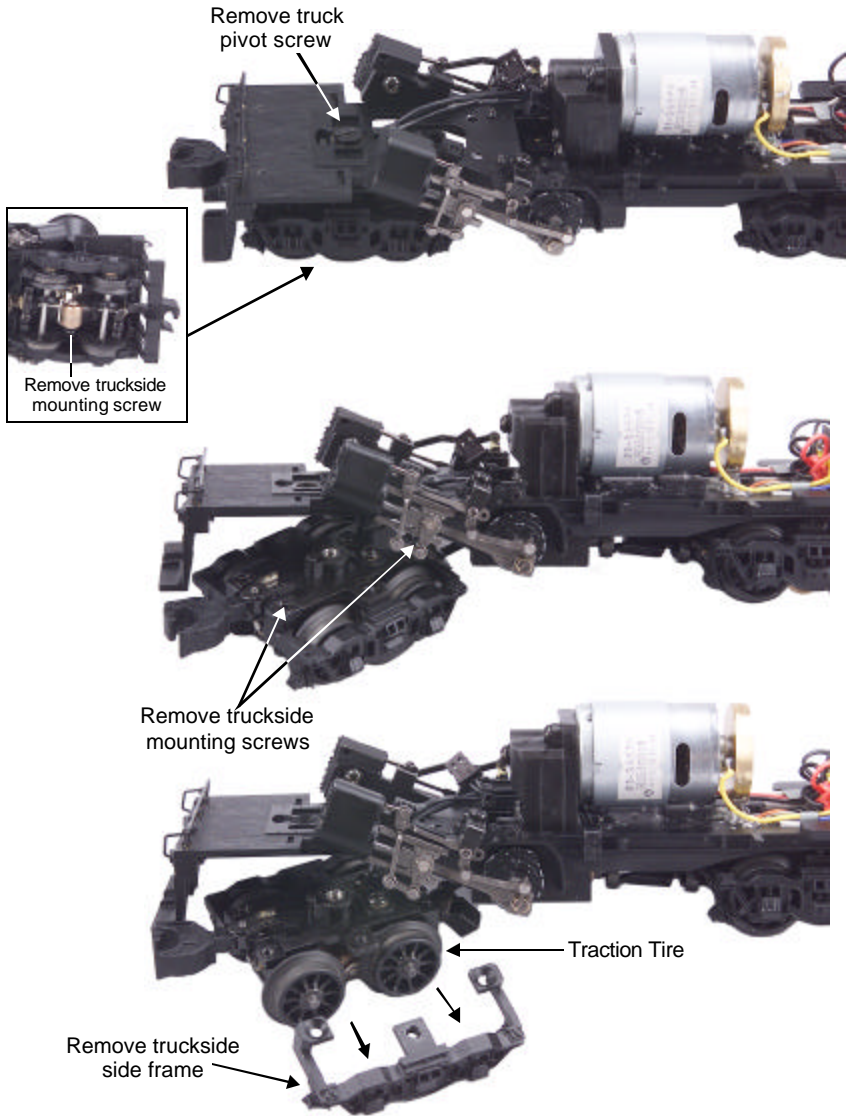

Figure 4. Replacing the Traction Tires
1. Remove the Boiler from the engine chassis, next remove the truck mounting screws from the top of the truck frame. Take note on which side the gears contact each other before disassembling. Remove the screws the hold the side frames to the trucks (2 on the bottom, 4 on top) Remove the wheel/axle assemblies from the trucks. Refer to the diagram (Fig. 4) on the next page for instructions on how to accomplish this.